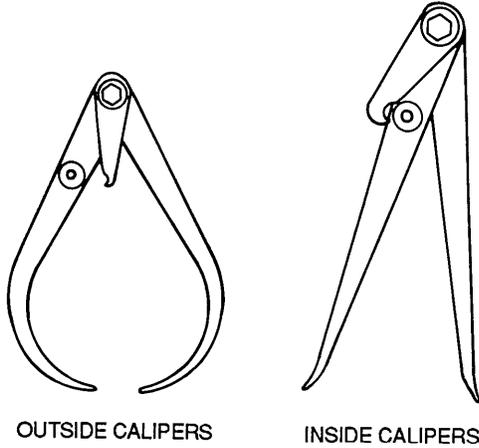

Figure 3-26. Transfer Calipers
(3) Transfer calipers. Transfer calipers are used for measuring chamfered grooves or angles. A screw attaches a small auxiliary leaf to one of the legs, as shown in figure 3-26. The measurement is made as with ordinary calipers. The leaf is locked to the leg. The legs may be opened or closed as needed to clear the obstruction. The legs are then brought back and locked to the leaf, restoring them to the original setting.